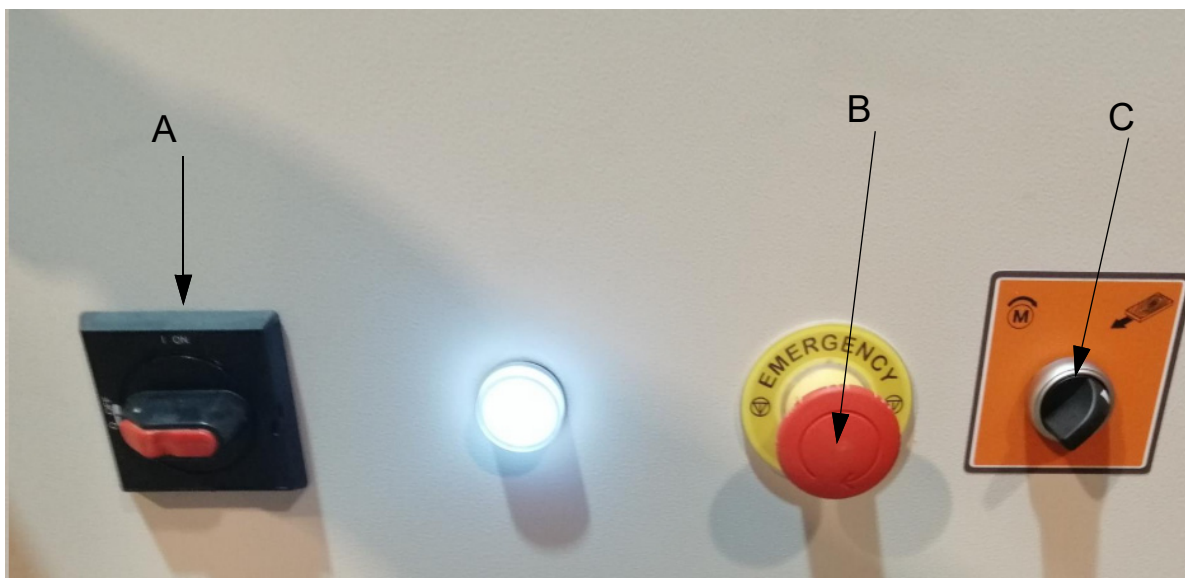

FIG. 5-9
See **Figure 5-9** The electric box control panel includes: main switch (A), emergency stop button (B), reverse gear switch (C) .